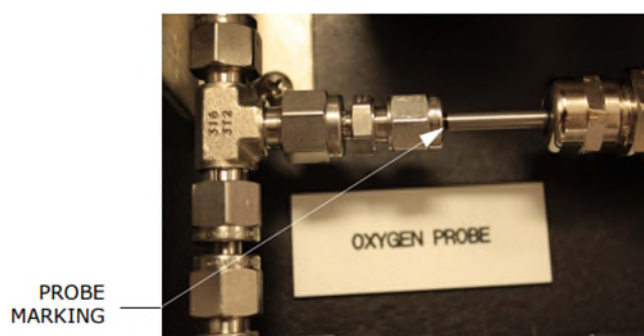

Figure 8. Oxygen probe - insertion marking
4. Insert the probe tip into the Swagelok T-fitting nut for the oxygen probe until the black marking on the probe meets the T-fitting opening. Refer to Figure 8.
10. Insert the probe tip into the Swagelok T-fitting nut for the oxygen probe until the black marking on the probe meets the T-fitting opening. Refer to Figure 8.